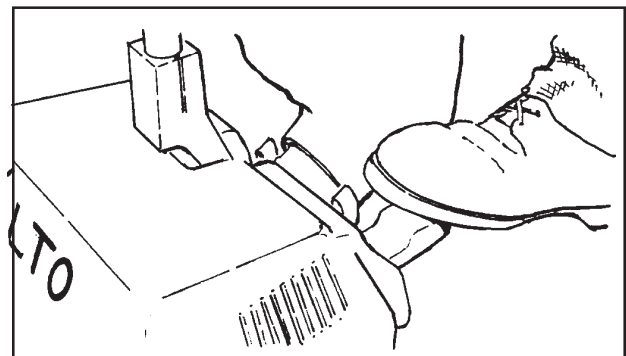

Figure 7
2. Lower the handle (see figure 7.)